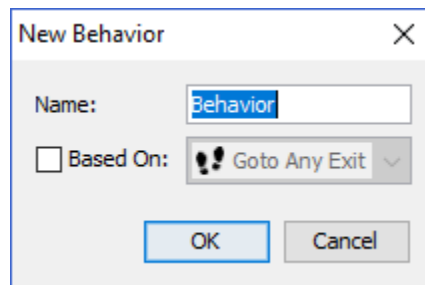

Figure 117. New Behavior dialog
1. Right click the **Behaviors** node from the Navigation View, and from the right-click menu, click **Add a Behavior**, which will open the New Behavior dialog shown in Figure 117.